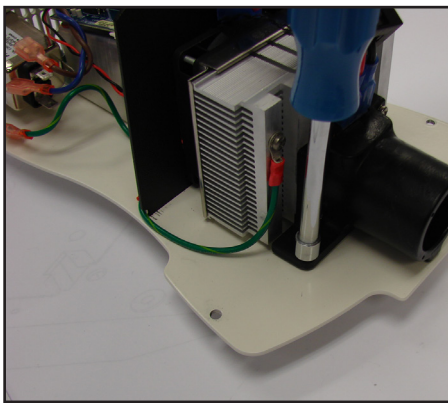

Figure 11-13
7. Use a 7mm nut driver to remove the nuts that attach the LED module to the back plate and pull out the whole module and fan assembly (Refer to Figure 11-13).